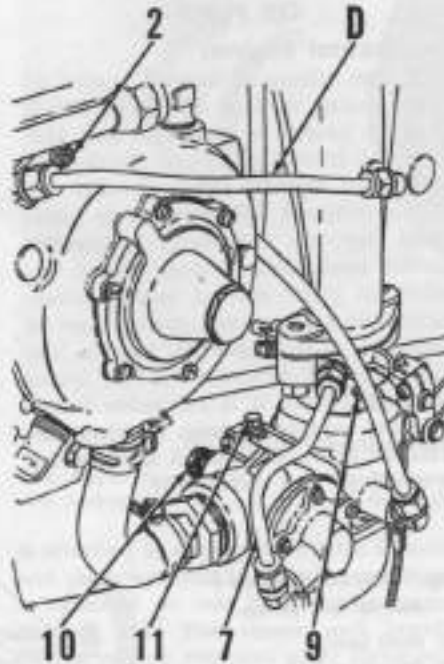

Fig. MH160—Model 44LP carburetor and regulator layout. Carburetor is Ensign model Xg, regulator is Ensign model W. Refer to legend under Fig. MH161.
The Ensign model Xg carburetor and model W regulator is used on the model 44LP tractors; model 55LP tractors are equipped with the model Xg carburetor and the model R regulator. Each combination has 3 points of mixture adjustment plus an idle stop screw. Refer to Fig. MH160 and MH161.
81. ADJUSTMENT WITHOUT LOAD. Average adjustment of the load screw (10—Figs. MH160 or 161) as recommended by Massey-Harris is 3 turns open for the 44LP and 3 1/3 turns open for the 55LP. However, to accurately set the load screw and regulator for the fuel and operating conditions as found in a certain locality, the Massey-Harris recommendations are as described in paragraph 82.
82. Disconnect idle line (D) at the manifold on the 44LP; at the regulator or economizer (whichever is the easiest) on the 55LP, and then plug the line and the connection. Set idle stop screw (9) on carburetor throttle to open butterfly valve about 1/4 open or to point where 1350 engine rpm is obtained. (Have hand throttle lever at quadrant forward so governor does not regulate idle speed.)